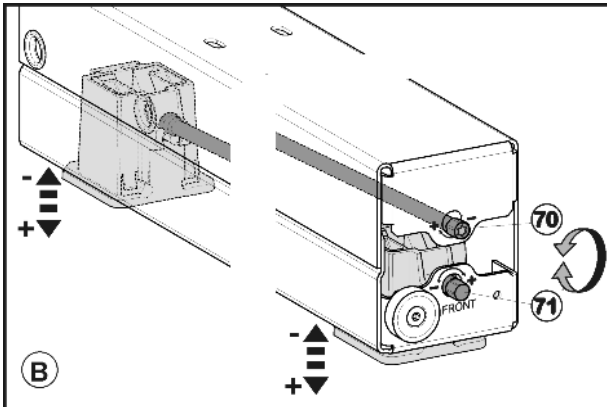

Fig. 43
- Align the height of both appliances evenly using the four roller bases. Use the upper adjustment setting (1/4") Fig. 43 (70) for the rear adjustment foot and the lower adjustment setting (1/4") Fig. 43 (71) for the front adjustment foot. Turn clockwise to raise and counter-clockwise to lower. Maximum adjustable height: 5/8 in (16 mm).